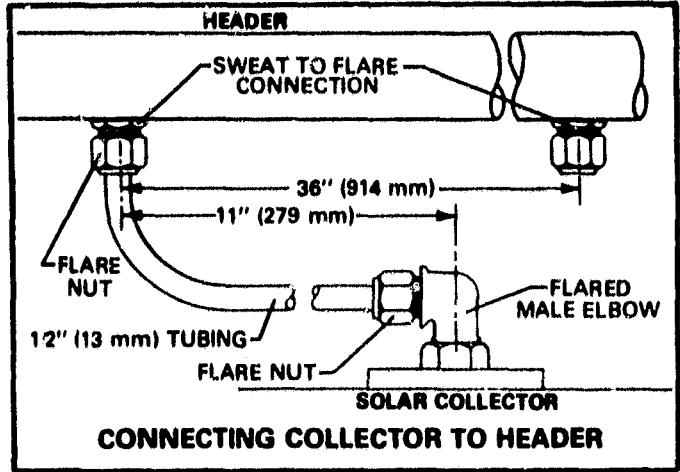
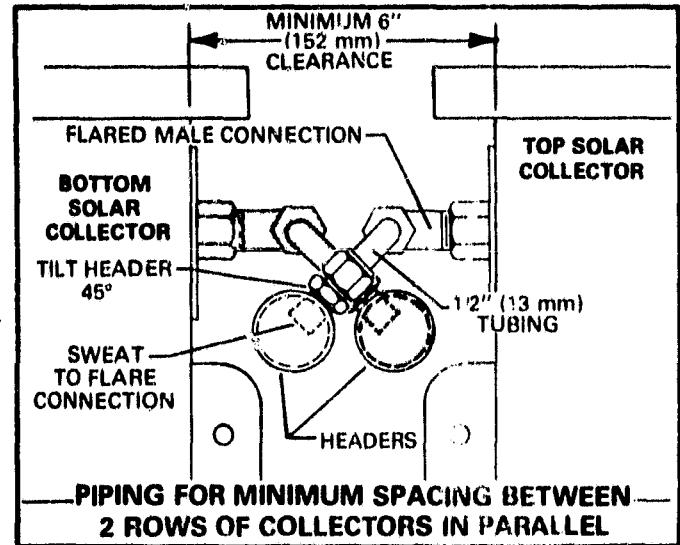

FIGURE 16
FIGURE 17
- b - A 1/2 inch sweat to 1/2 flare fitting must be soldered into each header at .36 inch intervals. Install a flare male elbow at the collector and connect piping as shown in Figure 16. In a two row parallel application, the return and supply headers can be piped according to Figure 17 to minimize collector spacing.